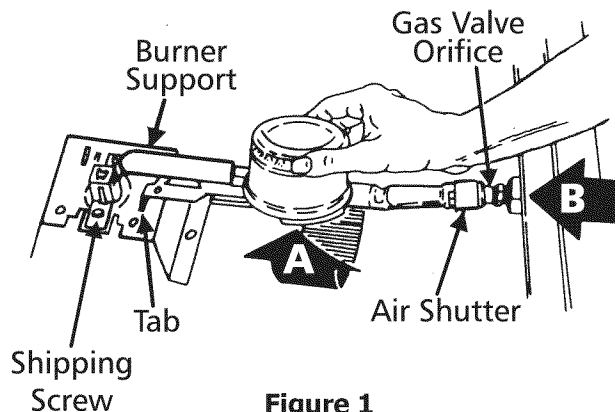

Figure 1
2. Grasp the burner head and tilt it to the right to release the tab from the burner support (A in Figure 1).